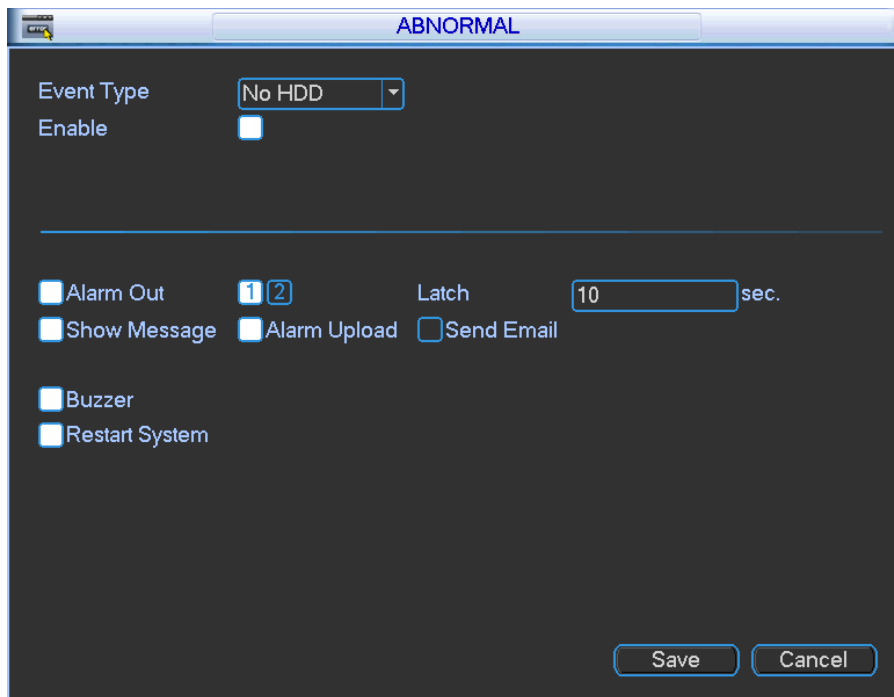

Figure 4-101
- Alarm set: Click alarm set button, the interface is shown as below. See Figure 4-101. (This interface is just like the abnormal setup). Please refer to chapter 4.3.4.3 Abnormal for detailed information.